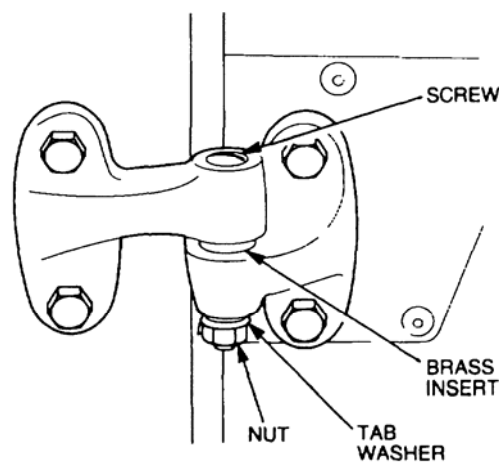

Figure 13 Rear Door Removal
- Support the door and remove the three screws, tabs washers and nuts securing the hinge valves together (refer Figure 13).
- Install the three screws, tab washers and nuts (refer Figure 13).